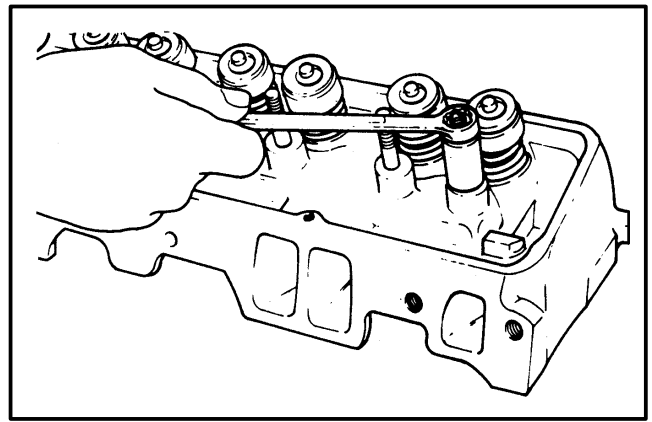

FIGURE 7. REMOVE A STUD FOR A ROCKER ARM
1. Remove the old stud. Install a spacer, flat washer, and nut to the damaged stud. Use a wrench to remove the damaged stud. See FIGURE 7.